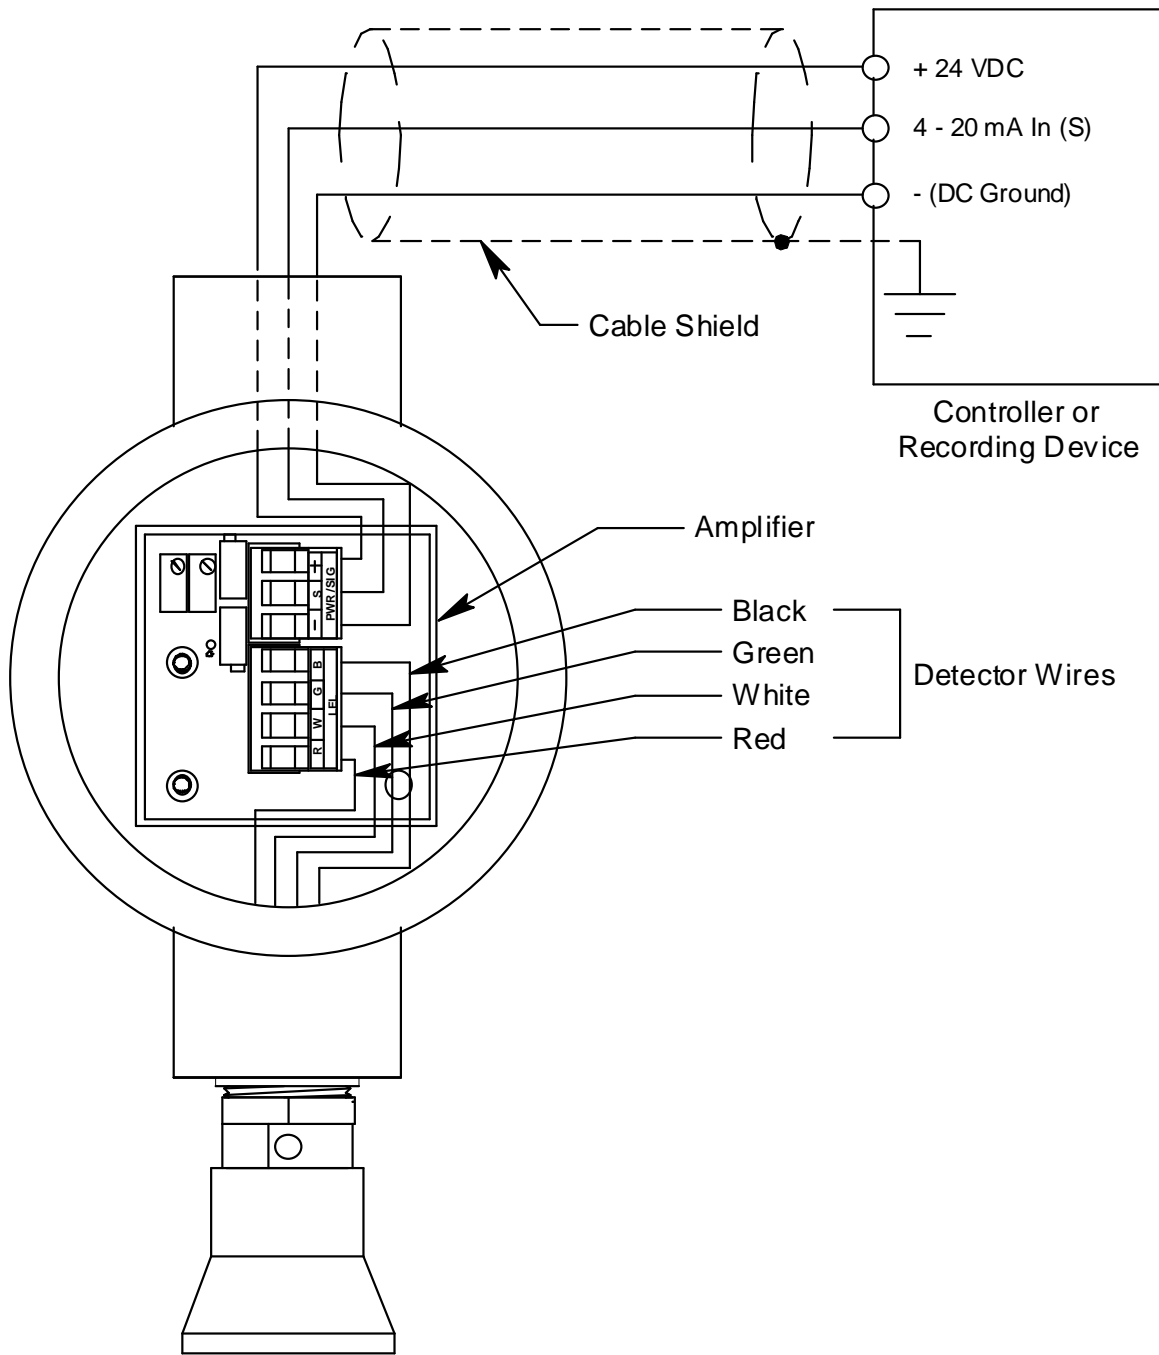

Figure 3: Wiring the Hydrogen Transmitter to a Controller
4. The detector leads are factory wired. Verify that the detector leads are wired to the amplifier's detector terminal strip as shown in Figure 3.
7. Pull out the controller terminal strip, and connect the three wires to the terminal strip as follows (see Figure 3).
11. Connect the wires to the applicable detector/transmitter terminal strip at the controller as shown in Figure 3.
8. Connect the detector leads to the detector terminal strip as shown in Table 3 below and Figure 3 on page 6 of this manual.
8. Install the detector and controller terminals strips into their sockets on the new amplifier as shown in Figure 3 on page 6 of this manual. If controller leads or detector leads were removed during this procedure, refer to Table 4 and Table 5 below.